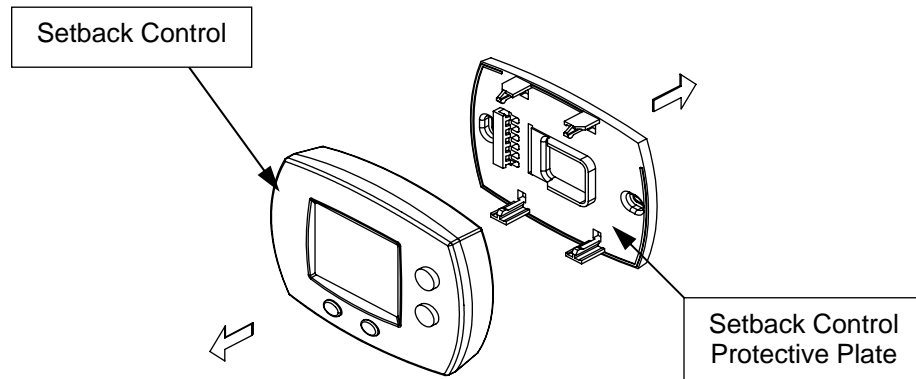

Figure 3
Step 3: Remove the Setback Control Protective Plate from the Setback Control by pulling these components in opposite directions, as shown in Figure 3. Retain the protective plate if the Setback Control will be remote mounted.